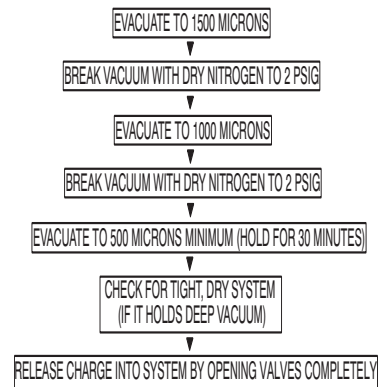

Fig. 26 — Triple Evacuation Method
The triple evacuation method should be used when vacuum pump is not capable of pumping down to 500 microns and system does not contain any liquid water. Refer to Fig. 26 and proceed as follows:
5. Repeat this procedure as indicated in Fig. 26. The system should now be free of any contaminants and water vapor.